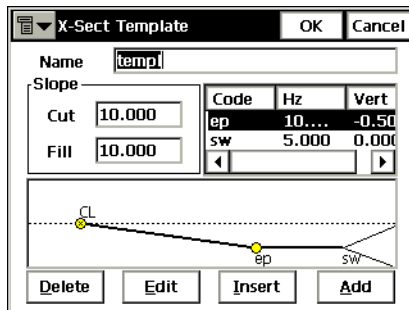

Figure 4-27. X-sect Templates
2. In the *X-Sect Templates* screen enter the parameters of the template: the name of the template, the Cut and Fill slope parameters and the segments comprising the template (Figure 4-27).